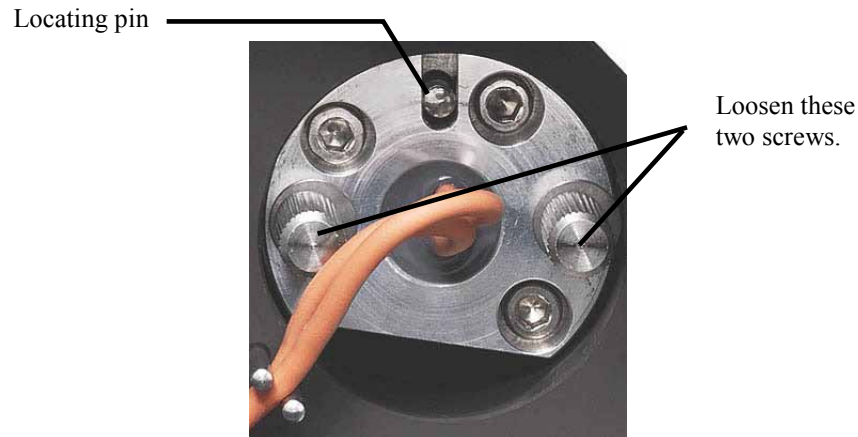

Fig. 36: Tungsten lamp screws
5. Loosen the two lamp cover screws (→ Fig. 36) and remove the lamp from the lamp housing.
6. Align the (new) lamp with the locating pin (→ Fig. 36), and then gently push the lamp into the lamp housing. Be careful not to tilt the lamp and be sure that the lamp flange is in a level position with the lamp housing. When the lamp is properly seated, tighten the screws in the flange.